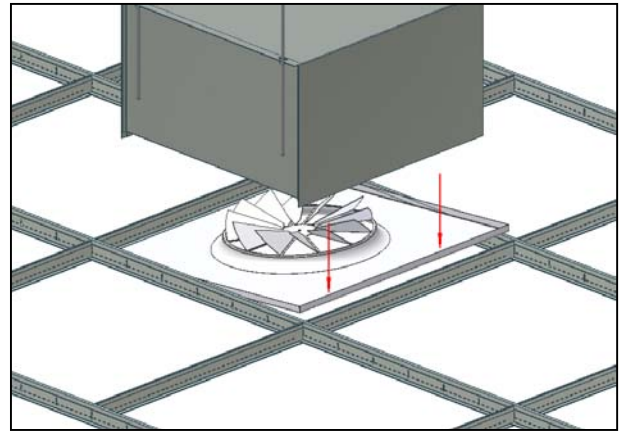

Figure 4: Lower Diffuser into position
4. Once the Diffuser is positioned, lower it into the opening, ensuring that it is firmly seated against the tee bars of the ceiling grid. (See figure 4).